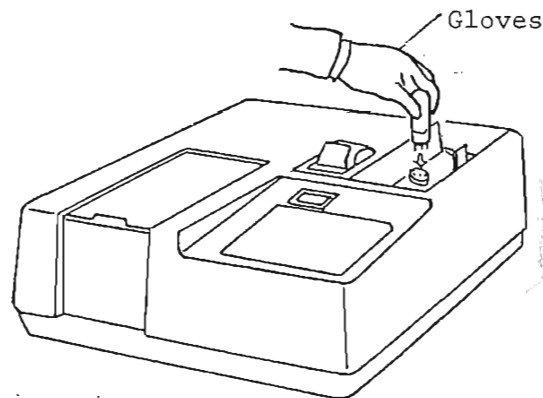

Fig. 3 Mounting  $D_2$  lamp.
- 3) Insert a new  $D_2$  lamp into the connector. (Fig. 3)